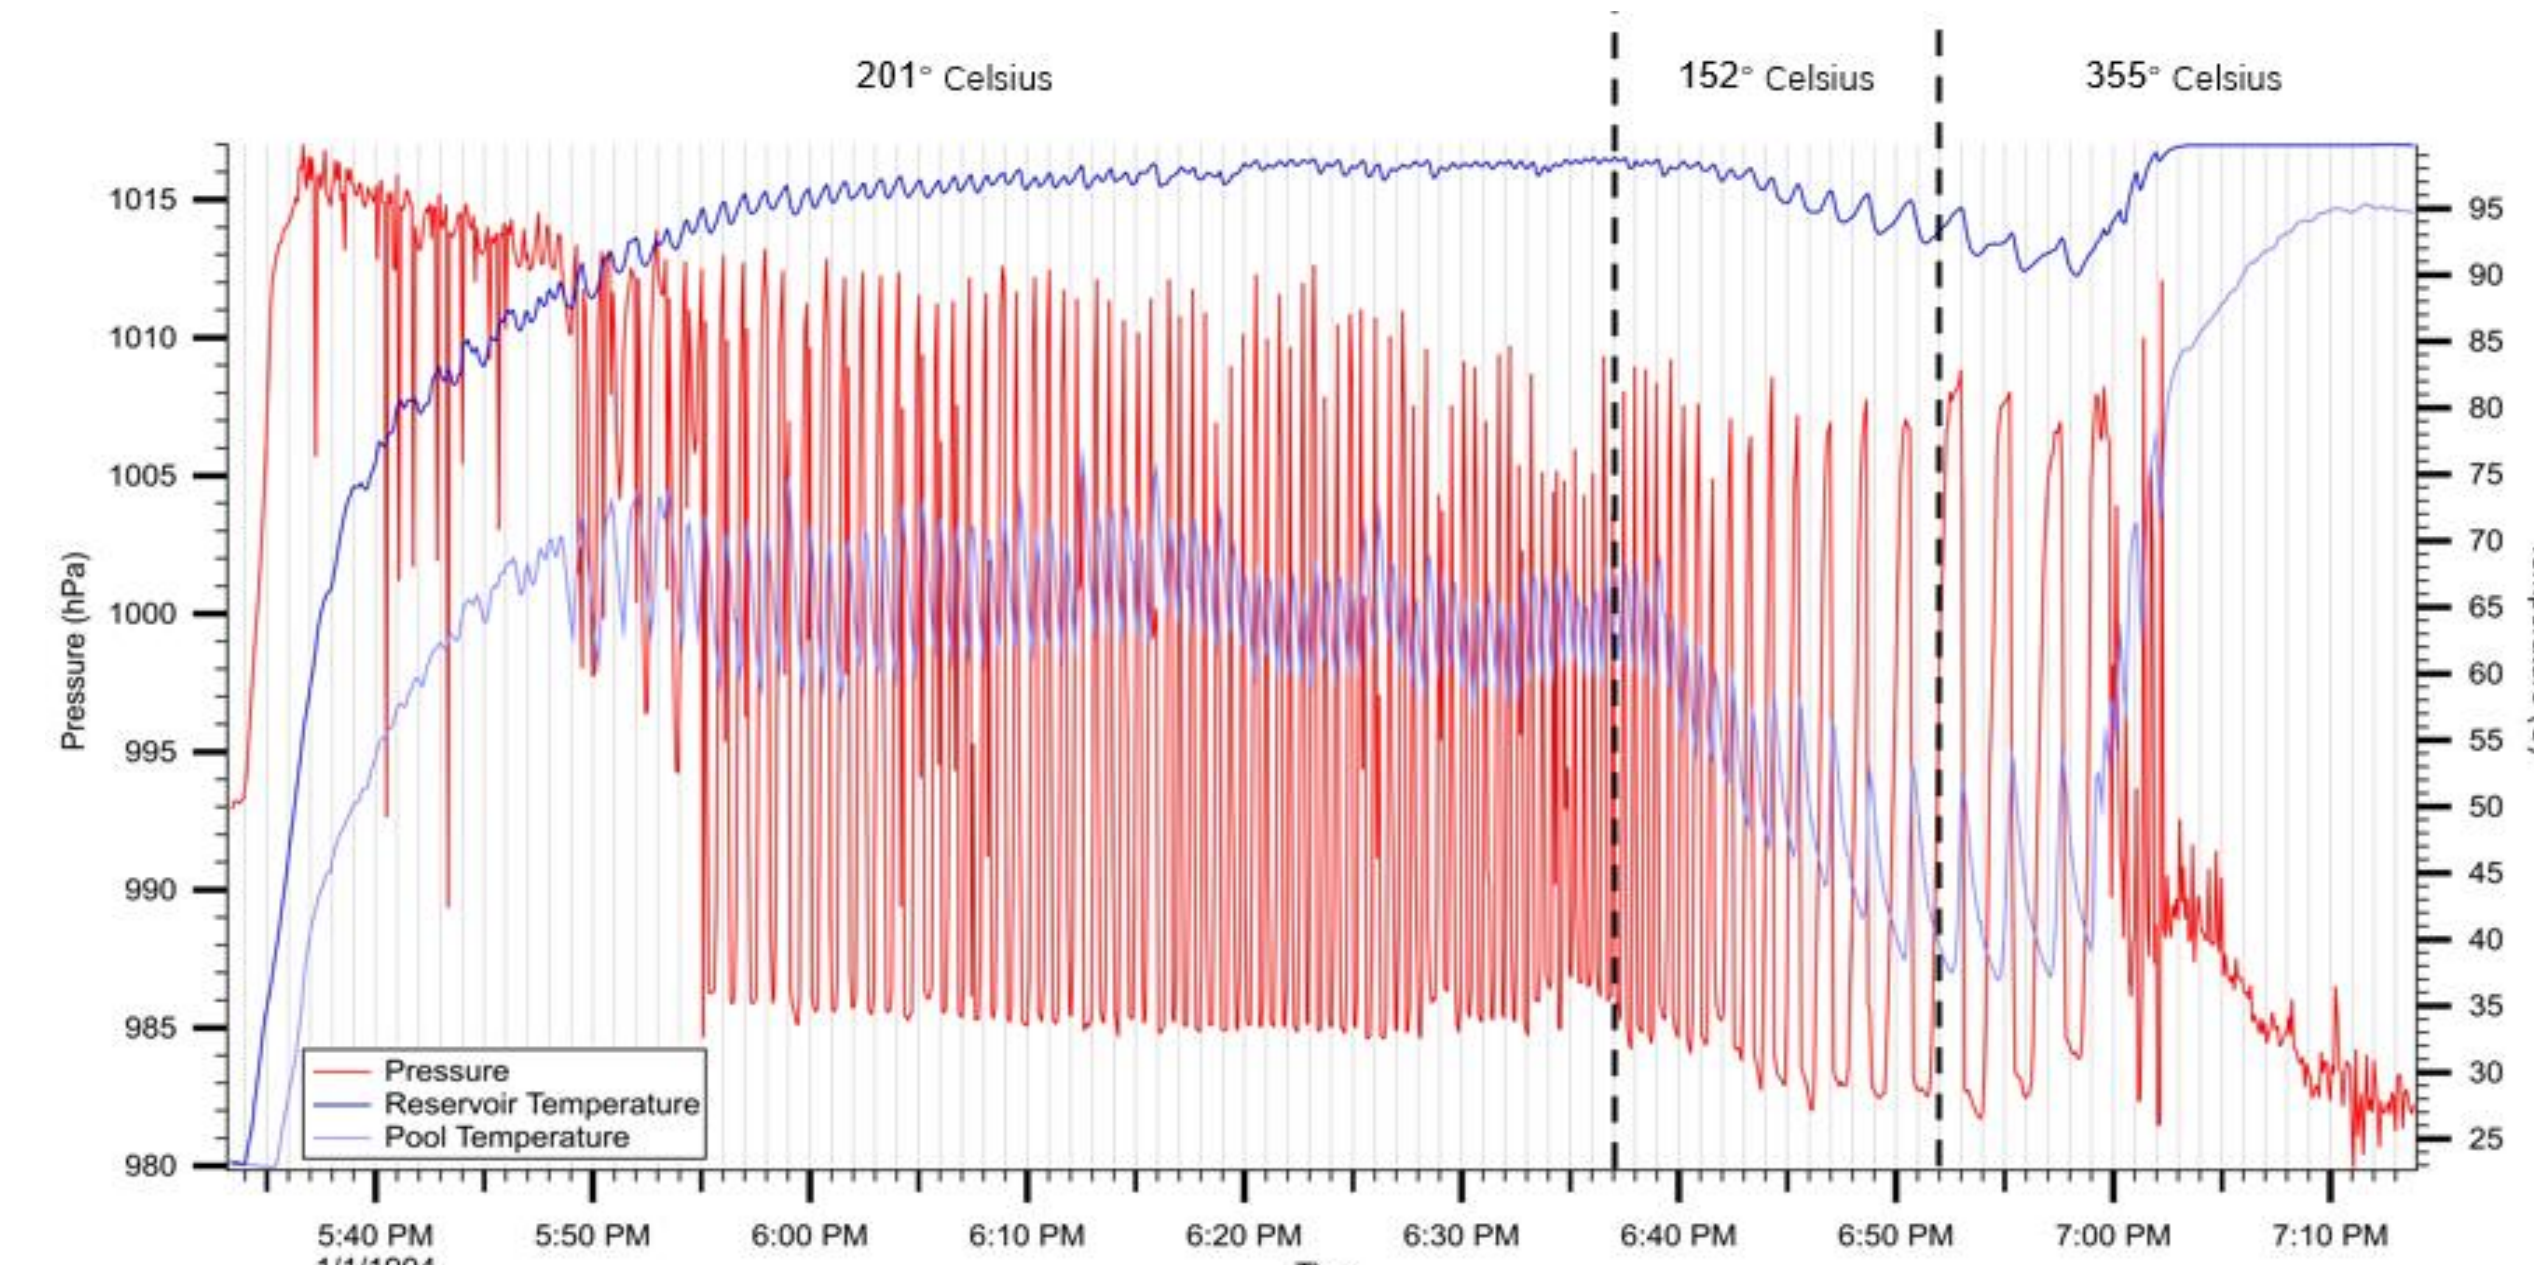

Figure 3a: Data from all the whole experiment.
- Successfully monitored and recorded multiple parameters of the geyser physical modeling setup (*Fig. 3a-3c*).